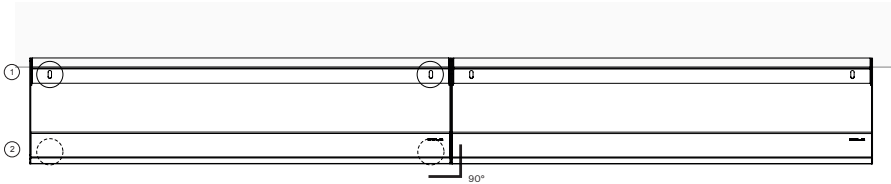

figure 3
2. Hold the shelf in position and fix the upper corner points on the inside by the 5x20mm screws or alternatively by the included rivet nuts and M6x16mm bolts. Next make sure the cabinet has a 90 degree angle in the bottom corner. Now screw into the 2 remaining bottom locations and fixate by the 4x16 screws (fig. 3).